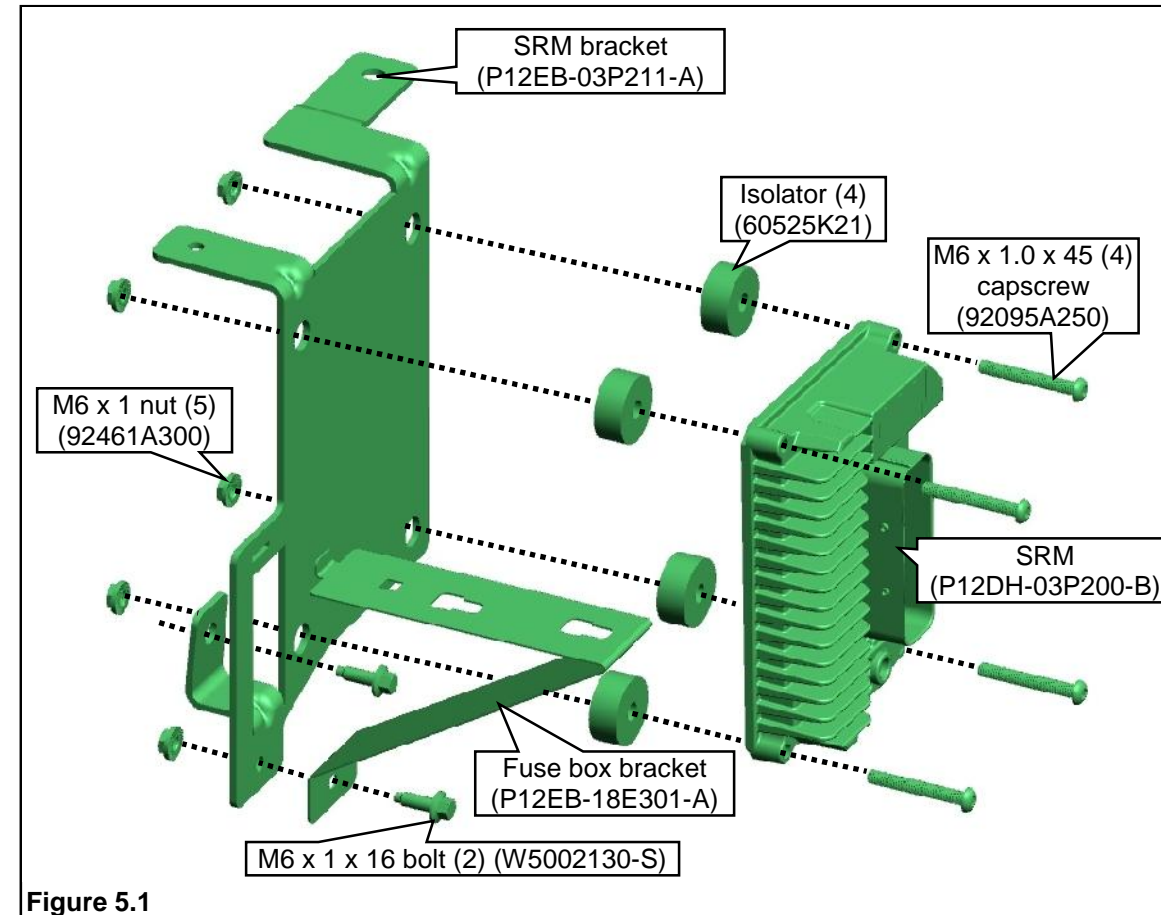

Figure 5.1
1. Assemble the SRM to the SRM bracket using four M6 socket-head capscrews and four M6 nuts. Tighten until snug. **Note:** Make sure that the SRM is oriented in the SRM bracket so that the electrical connector/harness faces downward for proper underhood harness routing. **Figure 5.1.**